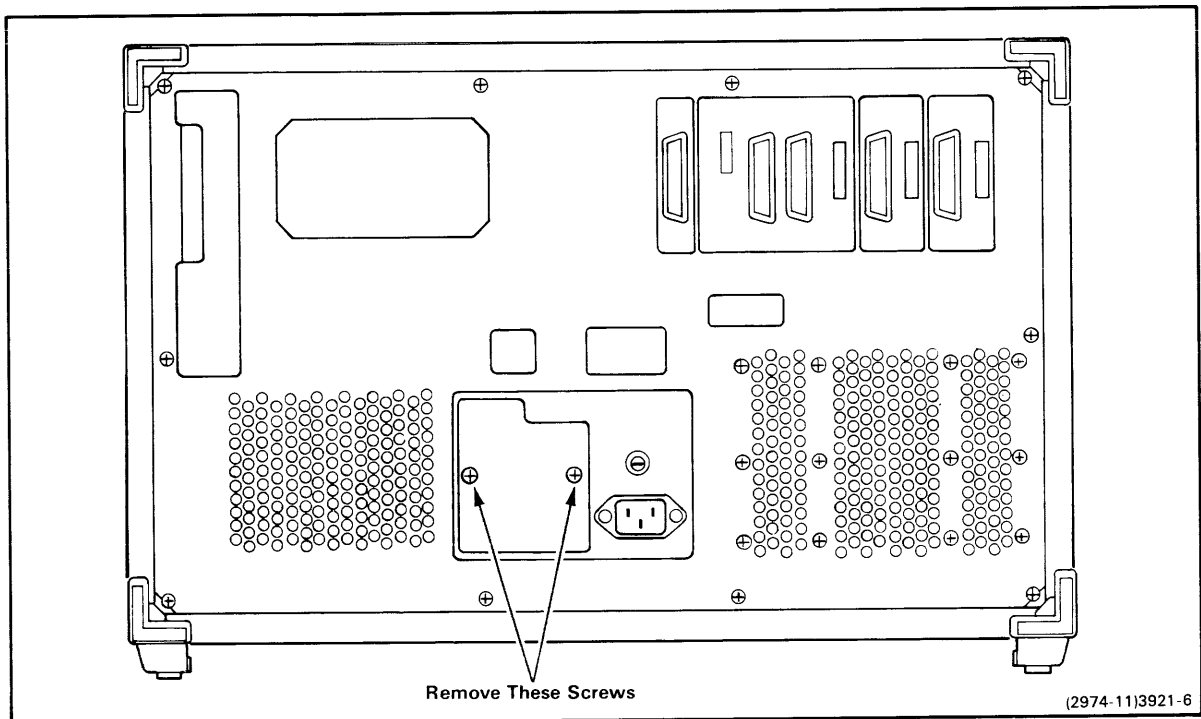

Fig. 3-4. 8540 primary voltage cover plate.
1. Refer to Fig. 3-4. Notice the small plate near the center of the 8540 rear panel. Using a Phillips screwdriver, remove the screws holding this cover plate.